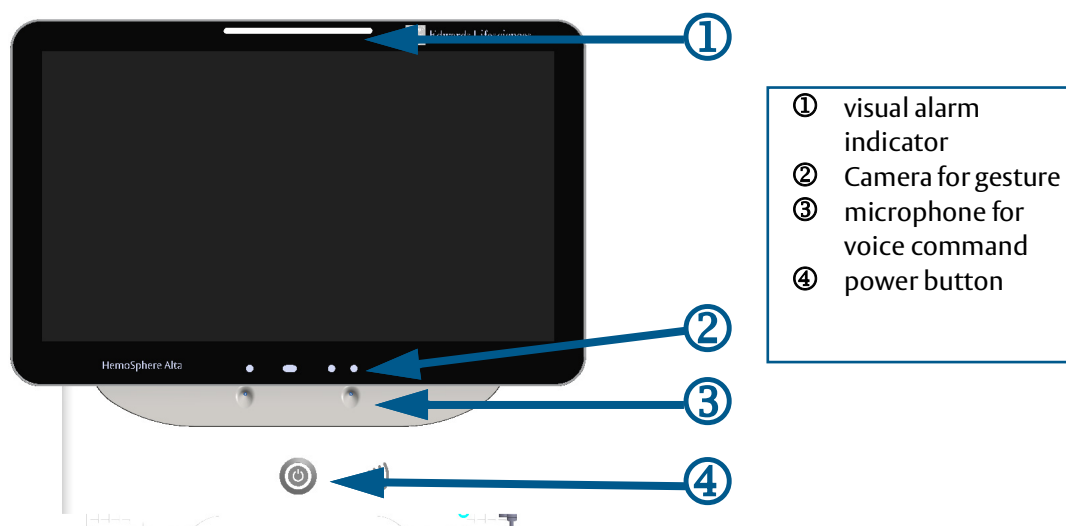

Figure 3-1 HemoSphere Alta advanced monitor front view
To power the monitor off, touch the power button. See ② in Figure 3-1 on page 61. The following options will be displayed: